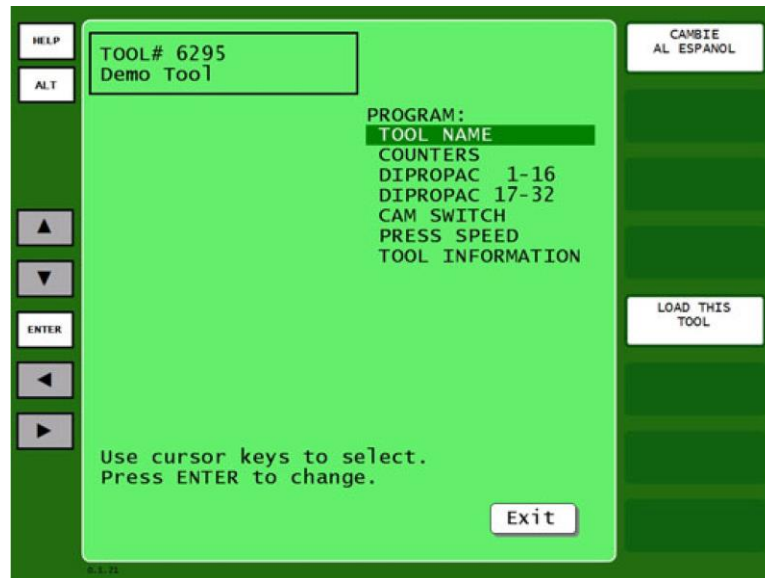
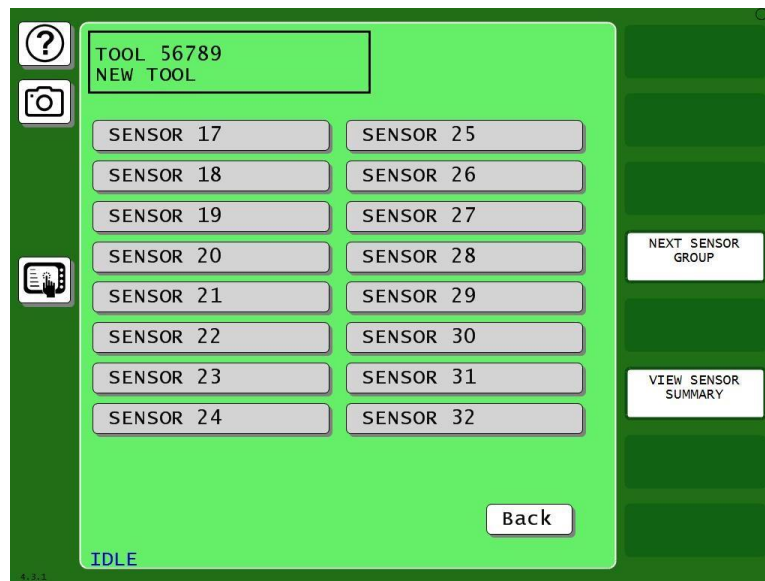

Figure 5-33. Tool Program Menu with DIPROPAC 1-16 and DIPROPAC 17-32 Items
Figure 5-34. Die Protection Sensor 17-32 Menu
When DiProPAC 32 is an installed option, two menu choices appear on the Tool Program Menu in place of the DIE PROTECTION item: DIPROPAC 1-16 and DIPROPAC 17-32 (see Figure 5-33, page 137,). You program the first sixteen DiProPAC 32 sensors, using the DIPROPAC 1-16 menu item. You select the DIPROPAC 17-32 item to program sensors 17-32.
1. On the Tool Program Menu, Figure 5-33, select the DIPROPAC 17-32 item. The Die Protection Sensor 17-32 Menu displays, Figure 5-34.